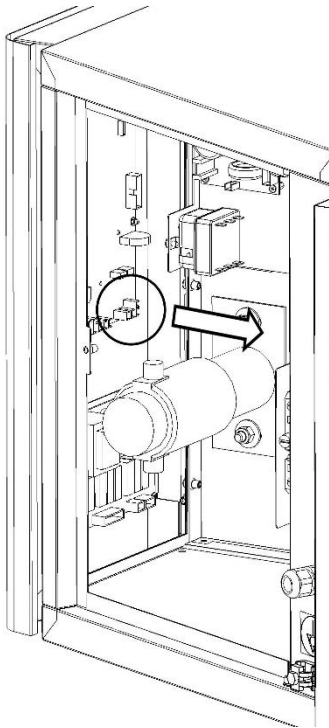

Fig.10A
- 3.Disconnect the electrical connections to the base board (Fig.10A).